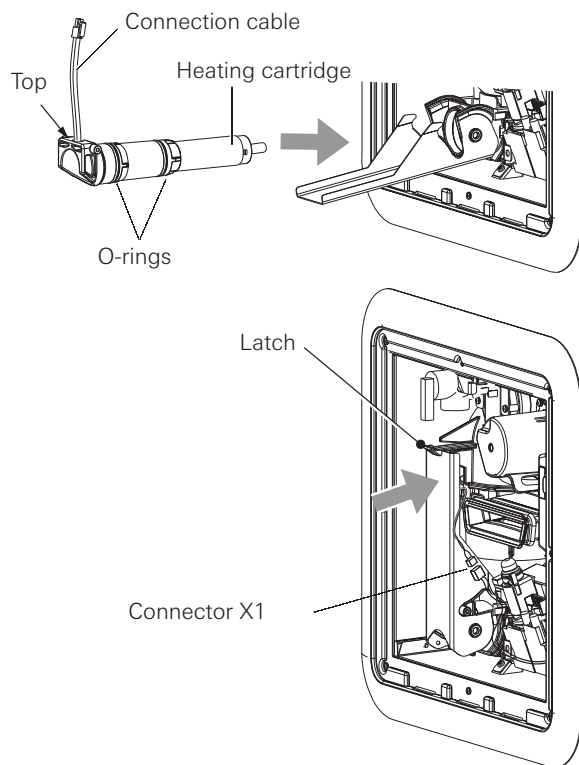

Fig. 4b
9. Install the heating cartridge as shown in Fig. 4b. Observe the correct installation position and close the Easy Drain Lever until it is locked by the latch. You can hear a “clicking” sound as the Easy Drain Lever engages.